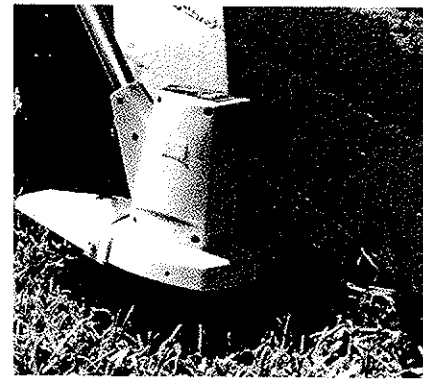

FIGURE 9
4. **TRIMMING:** Always cut to the left side of the unit, using a 30 - degree tilt. Figure 9. Cutting to the left will cause clippings to be thrown forward away from you.